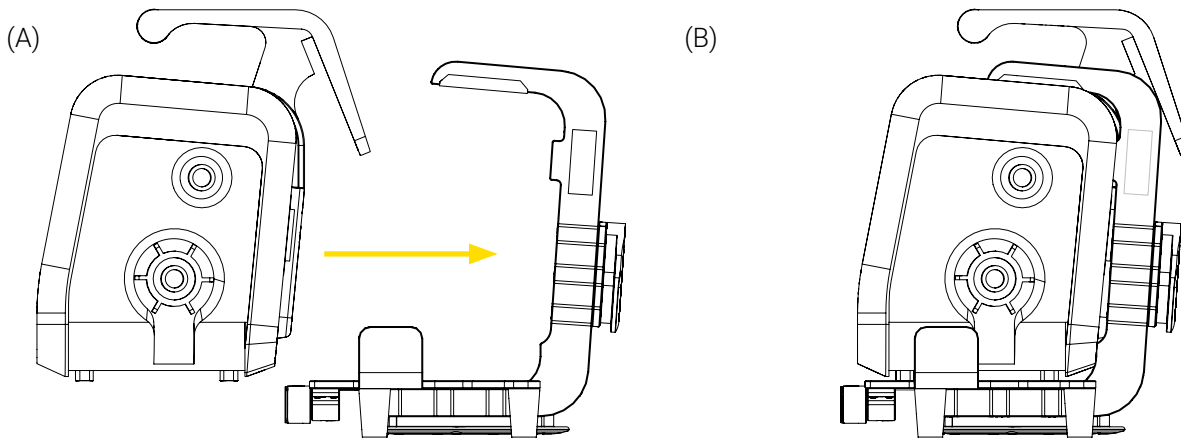

Figure 3: Installing the medical device in the Bracket Pro Serie 60 - GR
2. Insert the medical device into the bracket using the handle and push it to the back of the mounting system (Figure 3).